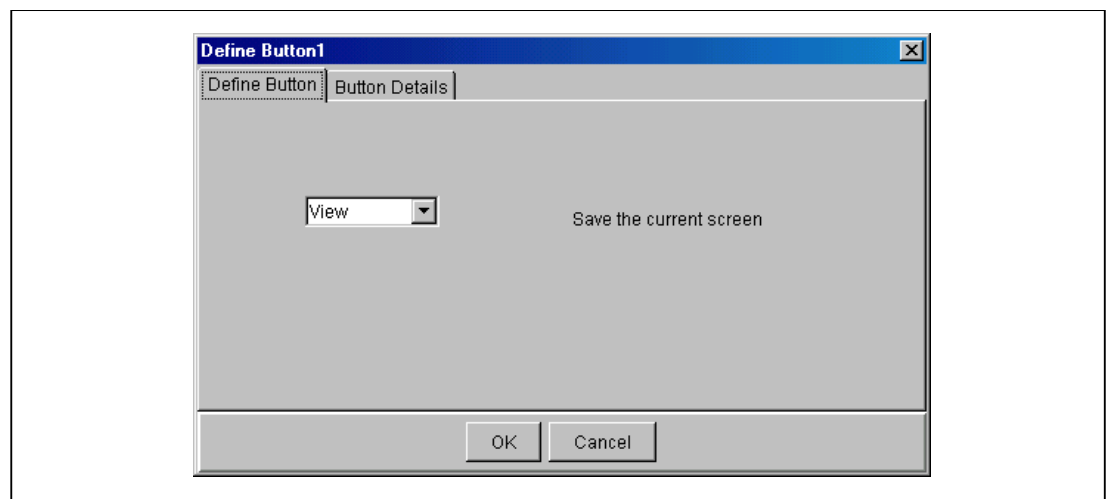

Figure 17: Configure a button to change the view
- Select the **Define Button** tab and choose **View** in the drop-down menu as shown in Figure 17.